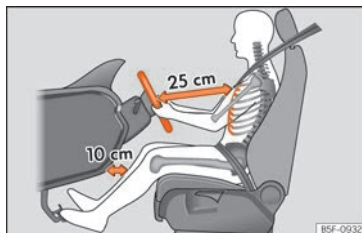

Fig. 87 The proper distance between driver and steering wheel.
»» **Fig. 87.**
- Adjust the driver's seat so that there is at least 25 cm distance between the centre of the chest and the centre of the steering wheel » **Fig. 87.** If you are sitting closer than 25 cm, the airbag system cannot protect you properly.